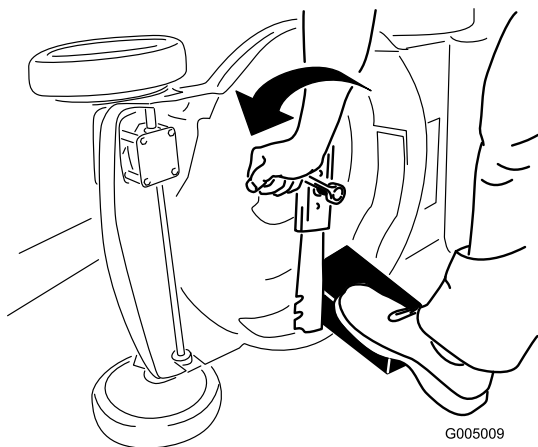

Figure 27
3. Use a block of wood to hold the blade steady (Figure 27).
4. Remove the blade, saving all mounting hardware (Figure 27).